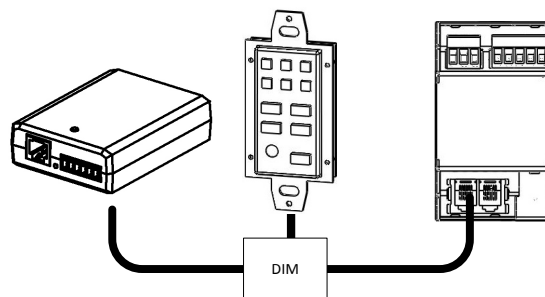

Figure 6
4.2 CS-Bus Wiring Directions (Single Controller to Multiple Interface Devices). (See Figure 6 below.)